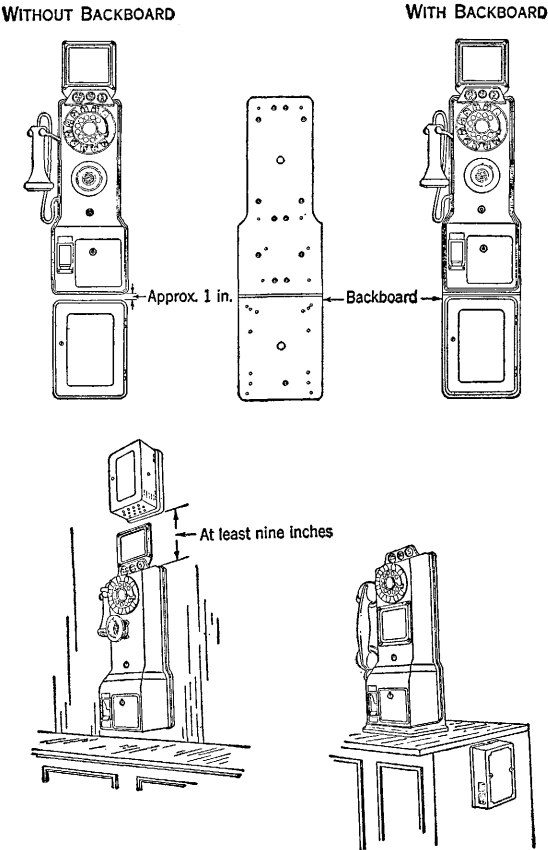

Fig. 4—Typical Locations for Subscriber Sets with Coin Collectors
2.06 At coin collector installations not in booths, locate subscriber sets as shown in Fig. 4.